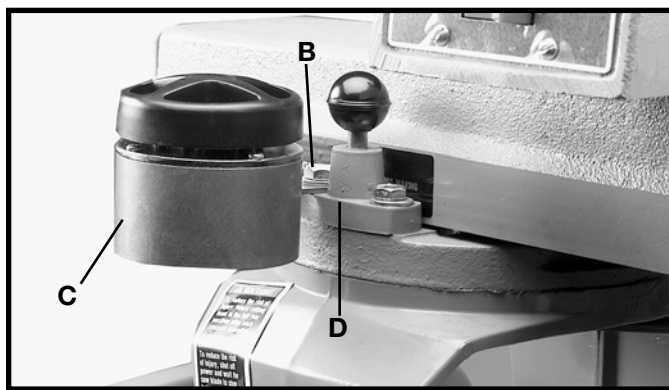

Fig. 29
3. Assemble reel (C) Fig. 29 to yoke assembly (D) and fasten with screw (B), which was removed in **STEP 2**.